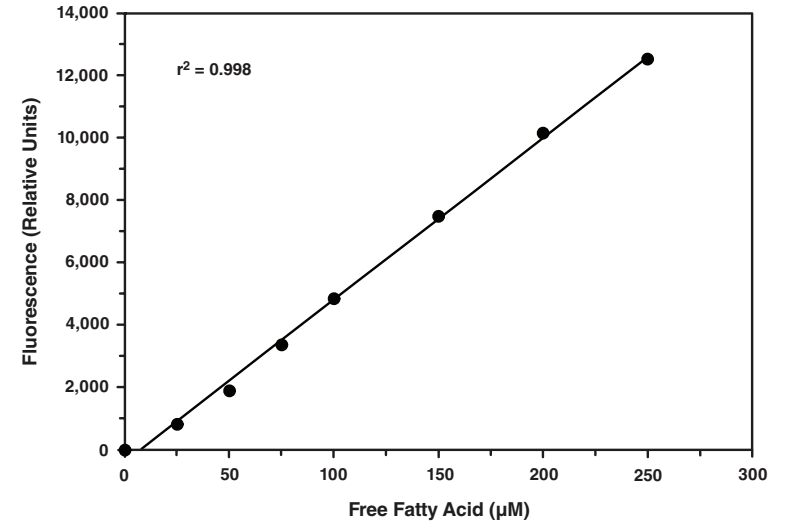

Figure 3. Free fatty acid standard curve
4. Plot the corrected fluorescence values (from step 3 above) of each standard as a function of the final concentration of free fatty acid from Table 1. See Figure 3, on page 19 for a typical standard curve.